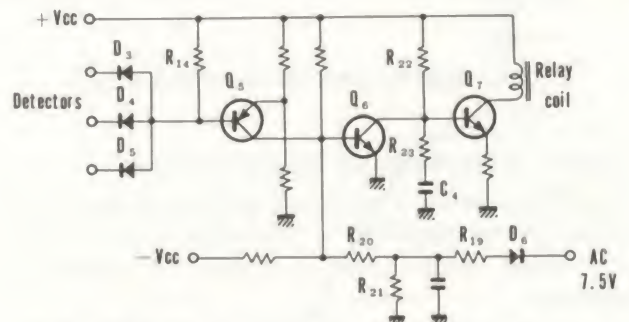

Fig. 19. Schematic diagram of relay driver circuit
1. Relay Driver Circuit (Fig. 19)